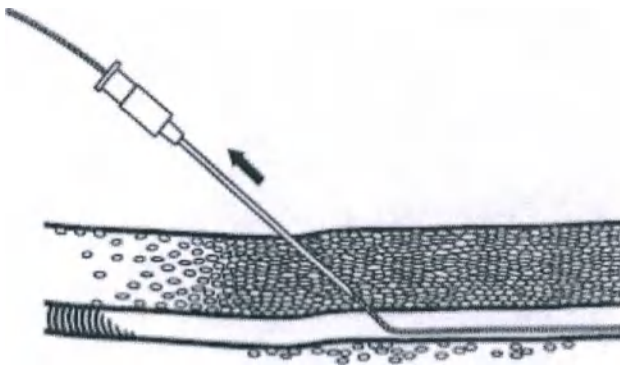

Fig. 3
3. Leaving the wire guide in place, withdraw the needle. If necessary, enlarge the puncture site with a #11 scalpel blade. (Fig. 3)